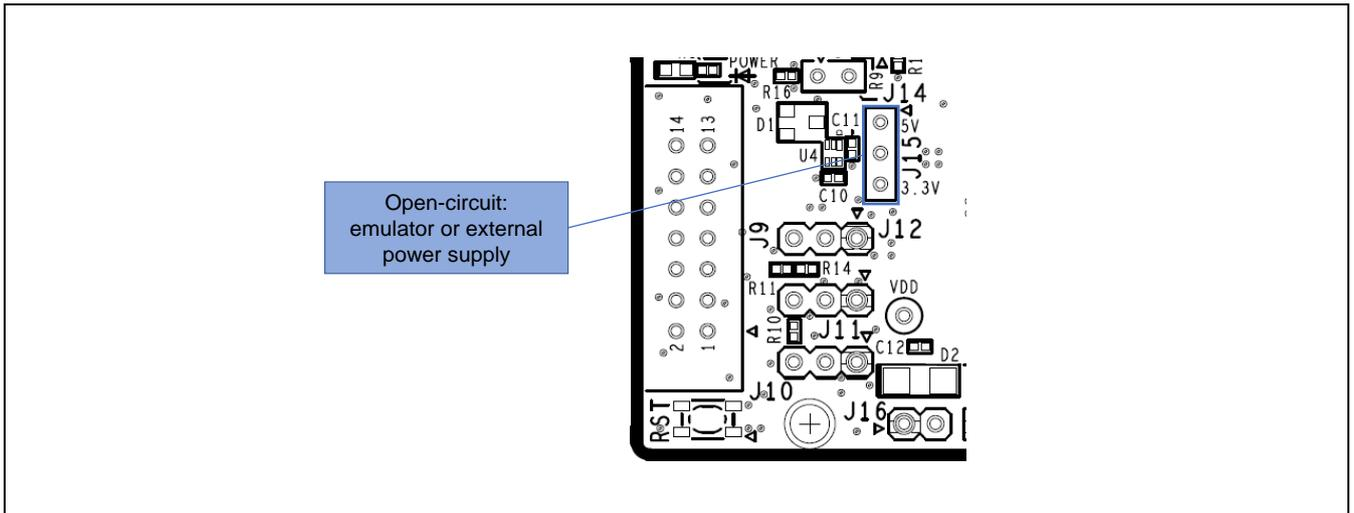

Figure 5-6 Setting of the Header to Select Supply from the Emulator or External Power (Top Side)
- J15 being open-circuit selects supply from the emulator or external power (Figure 5-6).